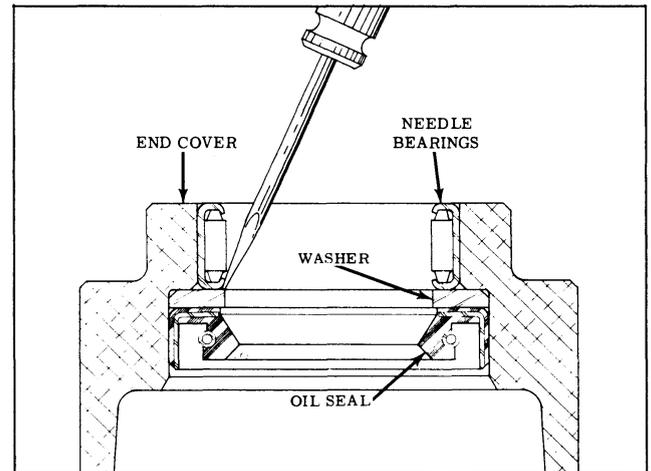

Fig. 5-43 Seal Removal
3. If bearing removal is not necessary, remove seal and washer as shown in Fig. 5-43.